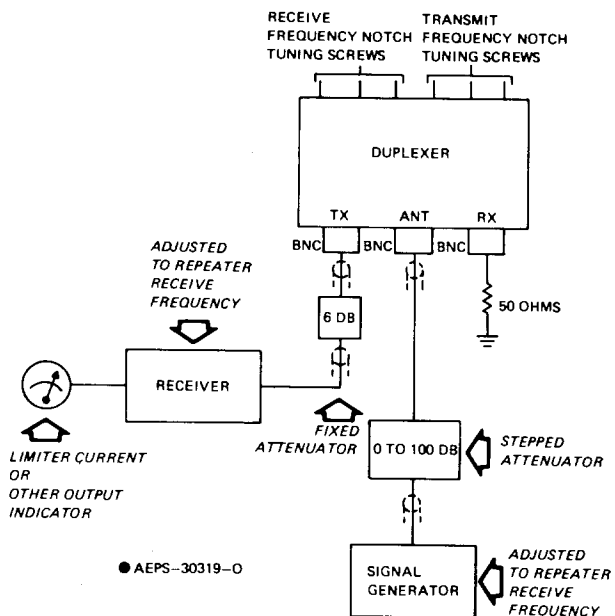

Figure 5. Receive Frequency Notch Adjustment Test Equipment Set-Up
Step 2. Connect test equipment to the duplexer as shown in Figure 5.